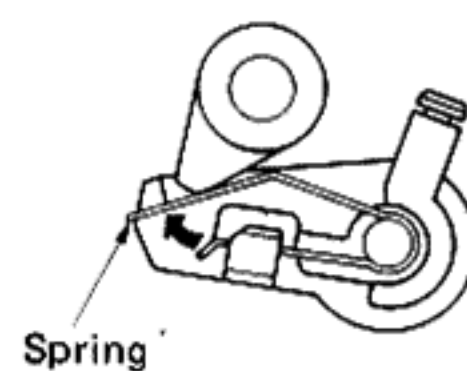

Fig. 11
2. Remove the brake cam spring (Fig.11), pressing it in the direction of the arrow.